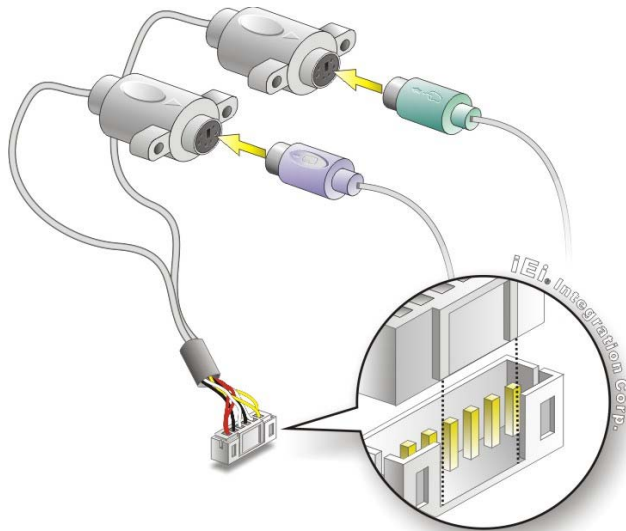

Figure 4-11: Keyboard/mouse Y-cable Connection
Step 2: **Align the connectors.** Correctly align pin 1 on the cable connector with pin 1 on the KINO-CV-D25501/N26001 keyboard/mouse connector. See Figure 4-11.
Step 3: **Insert the cable connectors** Once the cable connector is properly aligned with the keyboard/mouse connector on the KINO-CV-D25501/N26001, connect the cable connector to the on-board connectors. See Figure 4-11.